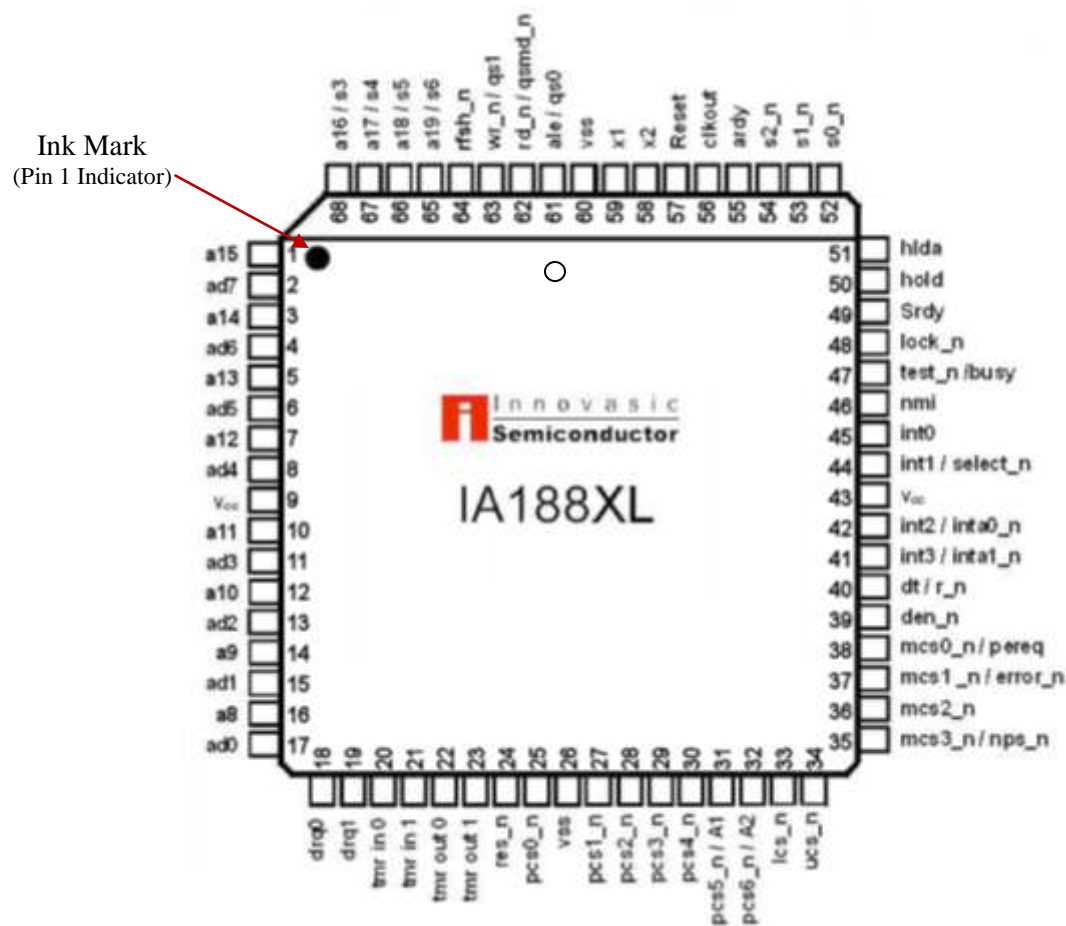

Figure 2. IA188XL 68-Lead PLCC Package Diagram
The pinout for the IA188XL 68 PLCC package is as shown in Figure 2. The corresponding pinout is provided in Table 2.
**NOTE:** The Innovasic 68-Lead PLCC package has both an ink mark and an indentation to indicate proper orientation. Pin 1 is designated by the ink mark, as shown in Figure 2.